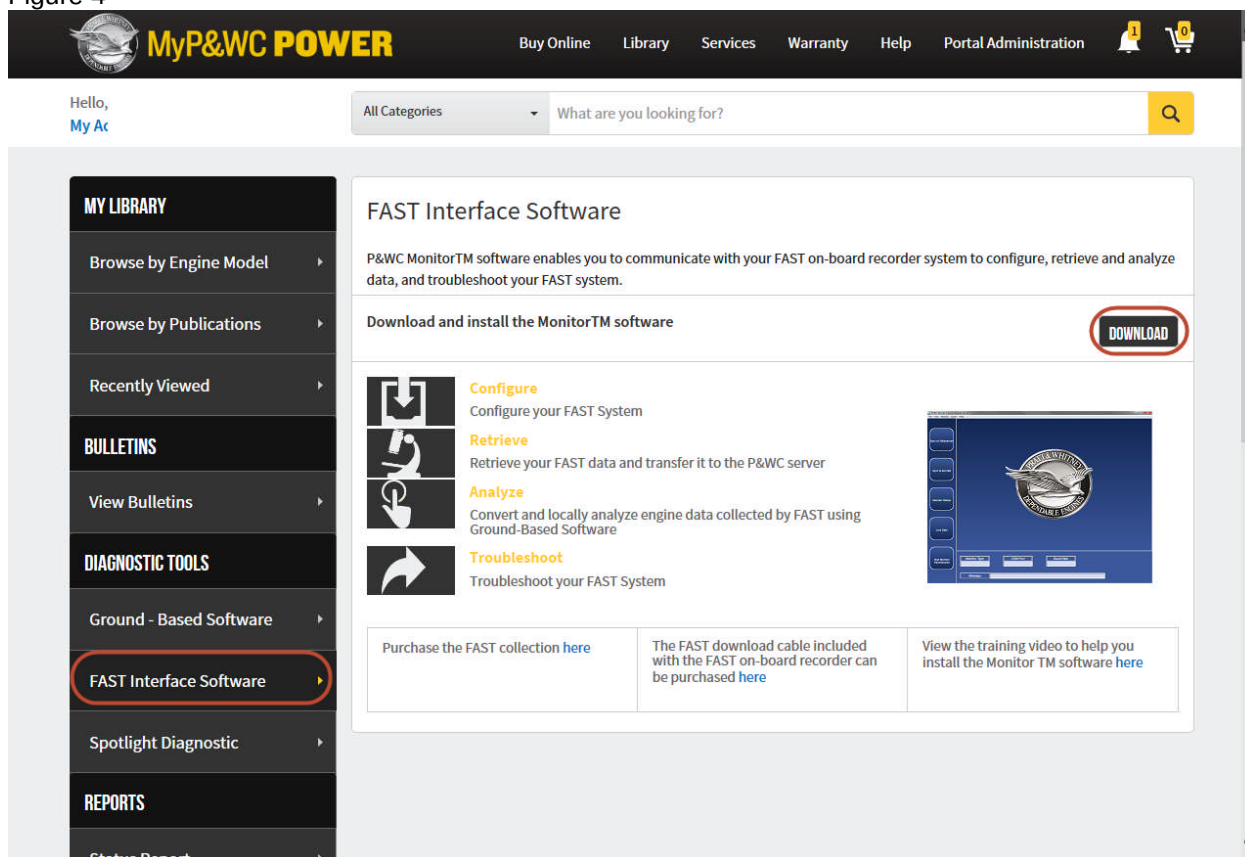

Figure 4: MyP&WC POWER FAST Interface Software
- 3) Select “FAST Interface Software” and click “Download” to save the installation file as shown in Figure 4